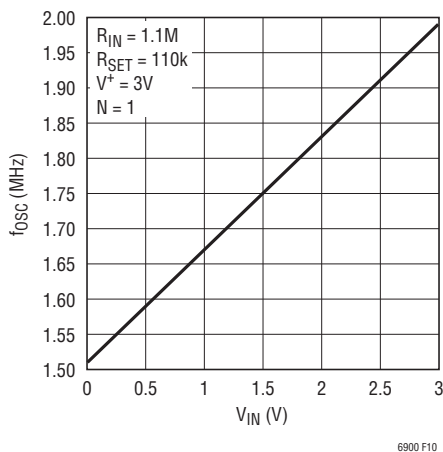

Figure 10. Output Frequency vs Input Voltage
Let $V^+ = 3\text{V}$, $f_{OSC(MAX)} = 2\text{MHz}$ for $V_{IN(MAX)} = 3\text{V}$ and $f_{OSC(MIN)} = 1.5\text{MHz}$ for $V_{IN} = 0\text{V}$. Solve for R_{IN}/R_{SET} by Equation (2), yielding $R_{IN}/R_{SET} = 9.9/1$. $R_{SET} = 110.1\text{k}$ by Equation (4). $R_{IN} = 9.9R_{SET} = 1.089\text{M}$. For standard resistor values, use $R_{SET} = 110\text{k}$ (1%) and $R_{IN} = 1.1\text{M}$ (1%). Figure 10 shows the measured f_{OSC} vs V_{IN} . The 1.5MHz to 2MHz frequency excursion is quite limited, so the curve of f_{OSC} vs V_{IN} is linear.